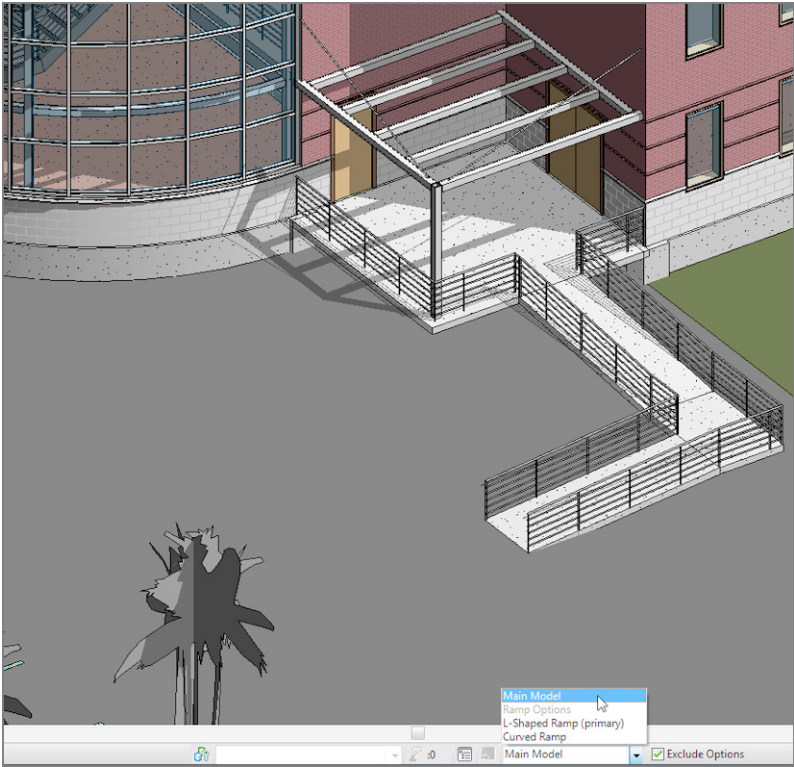

FIGURE 21.14: Switching back to Main Model
3. Change the option back to Main Model, as shown in Figure 21.14.